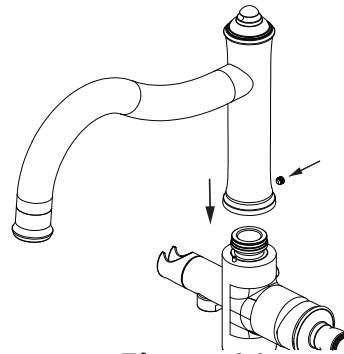

Figure 14
11. If spout is packaged separately, attach the spout to tub filler body. Align the spout with pin in the tub filler body and tighten the set screw as shown in Figure 14.